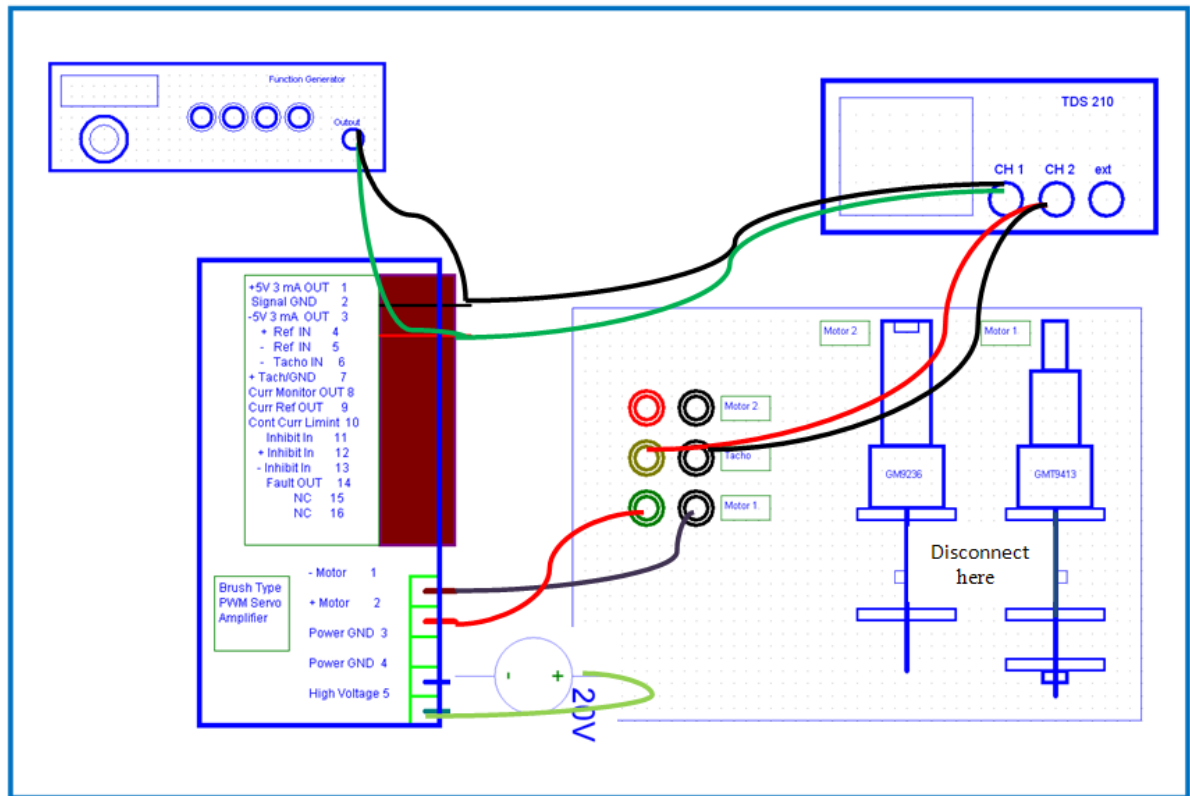

Figure 2-4
- 2) As show in Figure 2-4, with Ch1 of scope connect to Function Generator 50 Ω out and then connect to Servo-amplifier Ref in #4 and Signal GND #2, Servo-amplifier out (+ Motor, - Motor) to Motor 1. Ch2 of Scope connects to Tachometer lead.